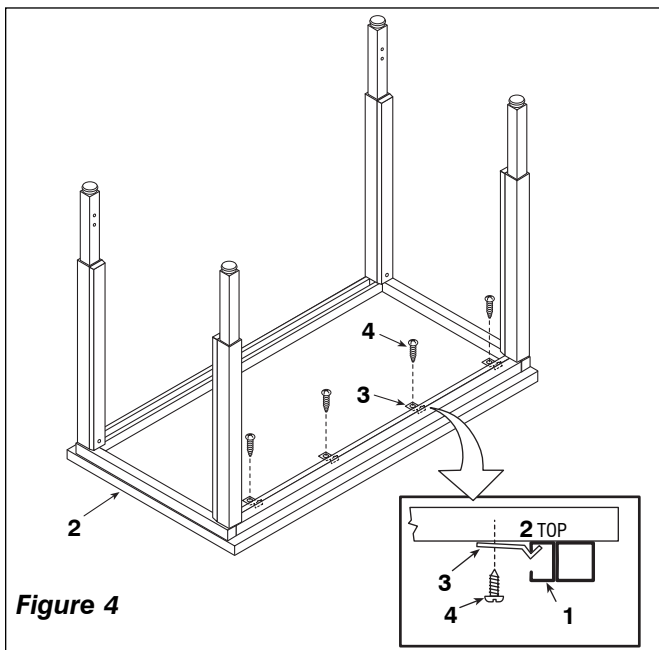

Figure 4
4. Locate the top anchor brackets (3) and No.10 x 1" screws (4). Equally space the brackets along the top and hook them over the "U" channel at the front of the table as shown in Figure 4.
6. Finish securing the top by hooking the top brackets (3) over the front frame "U" channel (1). (Fig. 4)
7. Insert the No. 10 x 1" screws (4) through the brackets and into the previously drilled pilot holes in the top (2). Tighten all screws securing the top. (Fig. 4)